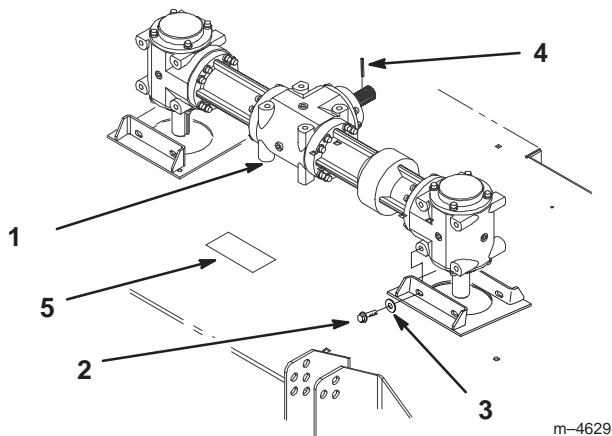

Figure 3
1. Place new gearbox on mower. The vertical output shafts should be centered in the two cone-shaped recesses in the top of the mower (Fig. 3).
2. Insert bolts, with washers, through mounting brackets and into gearbox mounting holes (Fig. 3). Torque mounting bolts to 260 ± 25 in.-lbs.
Install new decal over the existing decal (Fig. 3 and 4).